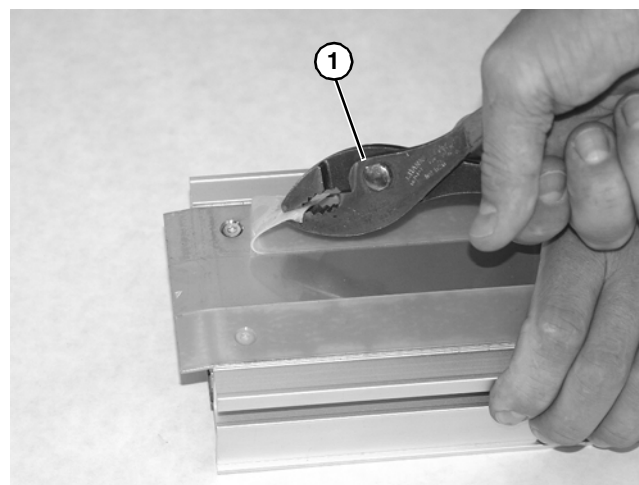

Figure 71
3. Remove old wear strip with a pliers (Figure 71, item 1).